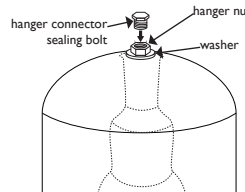

Fig. 4.6
12. If applicable; insert the sealing bolt into the open connector, ensure it is properly seated and tighten it. Do NOT over-tighten (fig. 4.6).